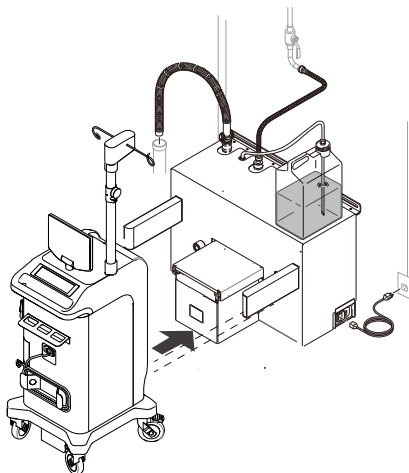

Figure 36 To Perform a Wash Cycle
1. Push the rover toward the docker and between the guides until the rover and docker attach automatically (Figure 36). Make sure the strike plates of the rover engage with the electromagnets of the docker. Make sure the rover is not plugged in during the wash cycle, the docker provides power to the rover during the docking process. Do not lock the casters. The DOCKING MODE screen will appear.